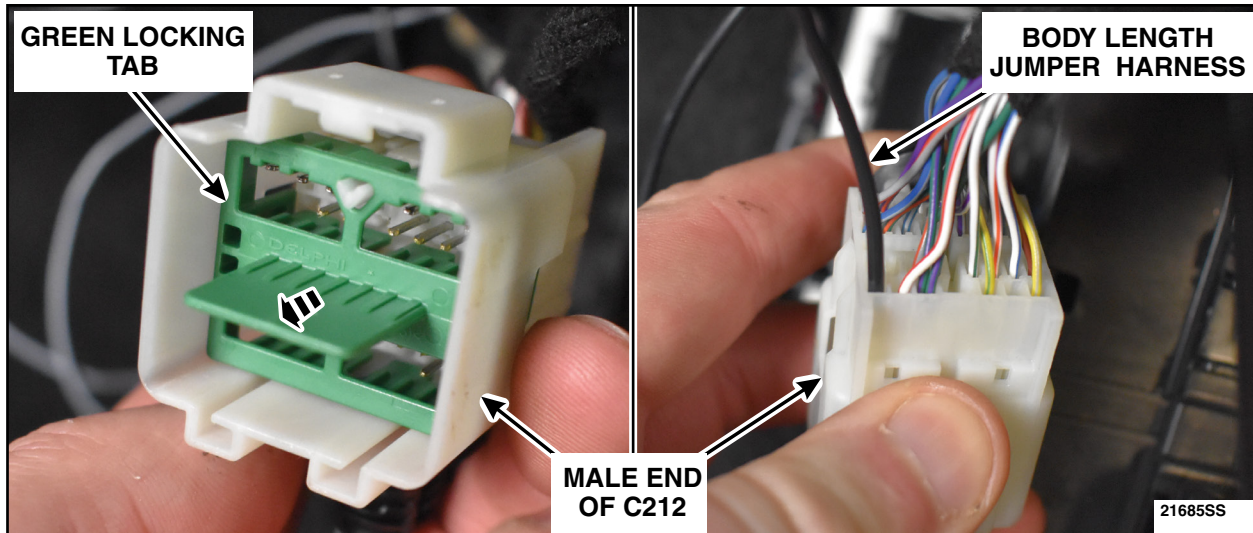

FIGURE 45
48. Remove the green locking tab and install the Body Length Jumper Harness terminal into the Pin 1 cavity of the C212 male end. See Figure 45.